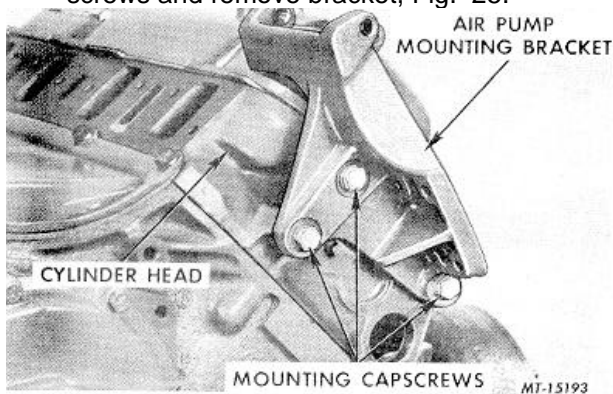

Fig. 25 Removing Air Pump Mounting Bracket.
30. Remove air pump mounting bracket cap-screws and remove bracket, Fig. 25.